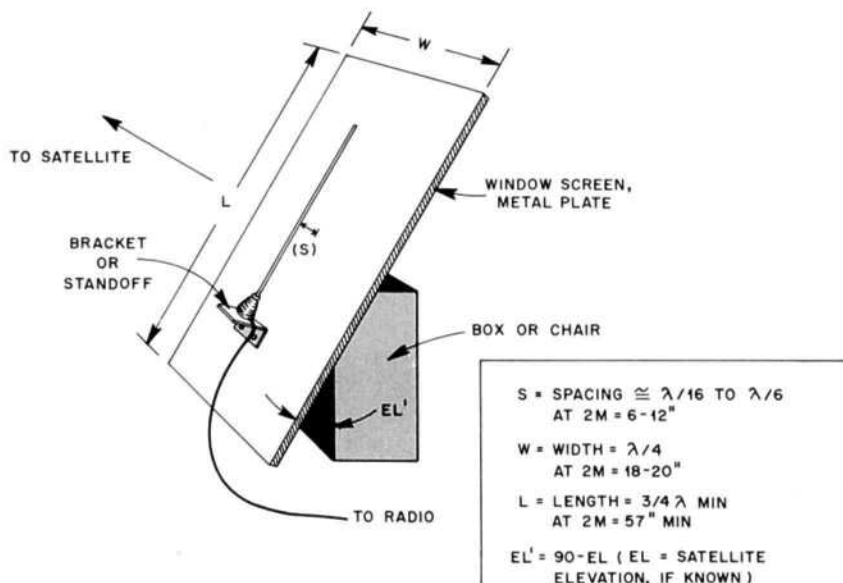

Fig 1—An emergency uplink antenna. By placing a mobile whip in front of a properly aimed reflector, an additional 1.5-2.5 dB gain is achievable.
Numbered Pad Functions for Figs 1 and 3**
**Fig 1—Schematic of the 10.2-V driven dc power supply and dual-mode modulator. All TNC and radio interface connectors are shown. This circuit fits on the main PC board. (This schematic is not drawn to QEX style so that it remains consistent with the TAPR design.)**
If a 2-m or 70-cm whip with 3-dB gain is placed in front of a properly aimed reflector (Fig 1), an additional 1.5-2.5 dB is obtained for a total of 4.5-5.5 dB. (Antenna gain varies depending on how sensitive the whip is to detuning by the reflector.) The reflector can be any metal surface spaced  $1/16-1/8 \lambda$  away from the whip so that the combined array is broadside to the satellite.
Looking back at Fig 1, keep in mind that there is a 3-dB penalty if the emergency antenna is linearly polarized and not circular. Use of a linearly polarized antenna drops the calculated 17-dB S/N on 2 m to 14 dB, an acceptable signal if ACSSB techniques are used. Our already
To produce a test and measurements unit, I placed several small test instruments into one package with a direct computer link (Fig 1). The PC is tasked to check for proper operation of the interface unit and functions as a real-time oscilloscope. Intersil CMOS integrated component design is used in most interface sections to minimize discrete hardware, and parts of the unit are designed around Intersil data book circuits.1 To link the computer's parallel bus to the circuit designer's interface, I purchased a programmable peripheral interface, the MetraByte PIO12.2 The PIO12 board uses an 8255-5 chip with 24 programmable I/O lines that can be individually programmed in two groups of 12. The two groups control three ports: PA, PB, and PC. Three software-selected modes govern how the ports function.
Fig 1—The MetraByte card's 24 I/O lines are terminated on three 8-bit terminal strips located above a solderless breadboard. Each I/O line is connected to CMOS-buffered color-coded LEDs mounted above the terminal strips. The LEDs provide instant visual feedback for breadboard input to the computer or computer output. Power supply voltage terminals,  $\pm 5$  V and  $\pm 15$  V, are to the left of the breadboard. Mounted further left is a  $3\frac{1}{2}$ -digit voltmeter, a four-function decade timer, and a multi-function waveform generator. The frequency of the waveform generator is set by a bidirectional thumbwheel. The generator output is located near the bottom left of the breadboard with its output connected to a BNC and a quick-release post connector for convenient breadboard interface. The power switch and pilot light are mounted to the upper left of the case. An Analog Devices 920,  $\pm 15$  V, 200 mA dc supply is shown in the upper right corner.